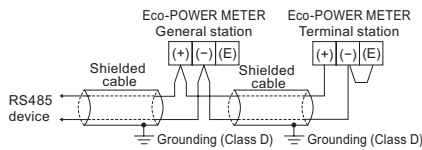

Fig. 1
- When using shielded cable for the RS485 transmission line, ground one end. Use a class D dedicated earth for grounding. Do not share a ground with other earth lines. (Fig. 1)